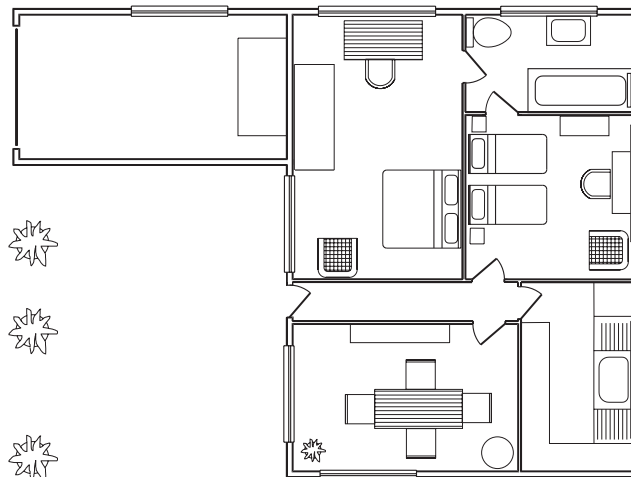

Fig. 9.8 Example – first method of inserting blocks
4. Insert all necessary blocks and add other detail as required to the plan outline drawing. The result is given in Fig. 9.8.
Take the drawing in Fig. 9.8 (p. 171) as an example. If all of the blocks are purged from the drawing, the file will be reduced from **145** kbytes to **67** kbytes when the drawing is saved to disk.